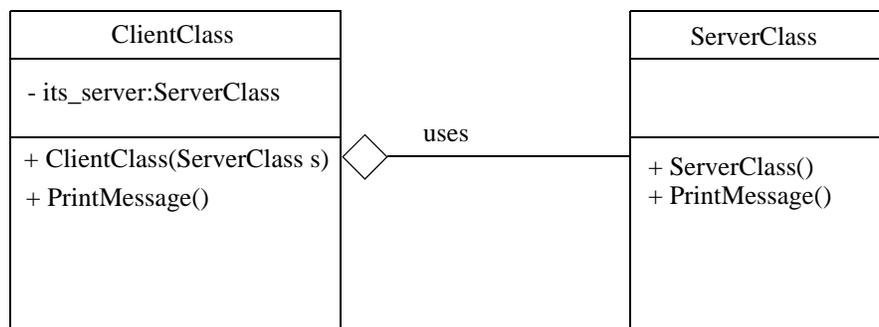

Figure 10-16: Simple Aggregation Class Diagram
5. **Programming Exercise — Demonstrate Composite Aggregation:** Write a program that implements the composite aggregation shown in figure 10-16.